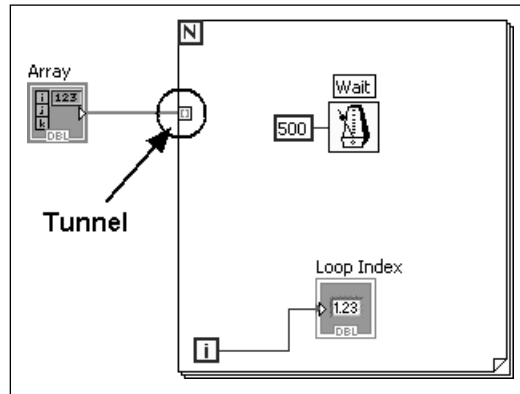

Figure 4.51
- The connection to the left edge of the For Loop is called a *tunnel* (indicated in Figure 4.50). Tunnels allow values to pass through, into the loop. When you wire an Array control to an *input tunnel*, the values of the array are passed into the loop and can be used inside the loop. In Figure 4.51 the array values are now being displayed one after another as the loop cycles. (The block diagram is shown in Figure 4.52.)